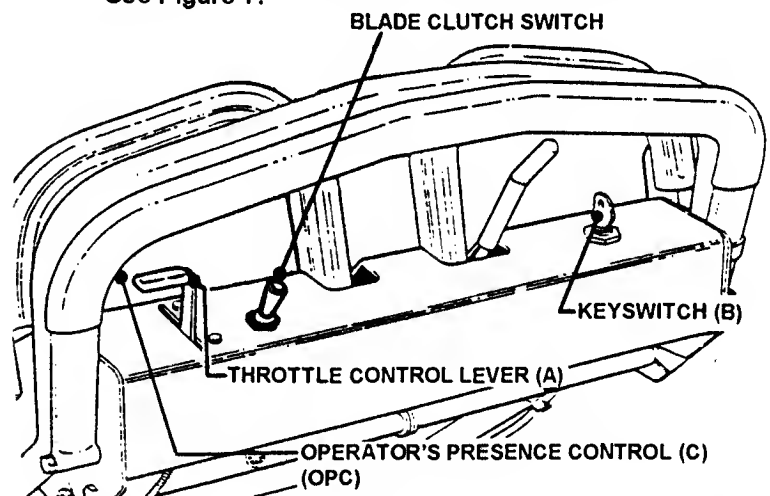

FIGURE 7
- 4a. **LOOP HANDLE** -Pull Blade Clutch Switch backward (toward operator) to the **OFF** position. See Figure 7.
- 9. Place Transmission Shift Lever in No. 1 position (first gear). See Figure 7.
- 10a. **LOOP HANDLE** - Push Blade Clutch Switch/Lever to **ON** position. See Figure 7.